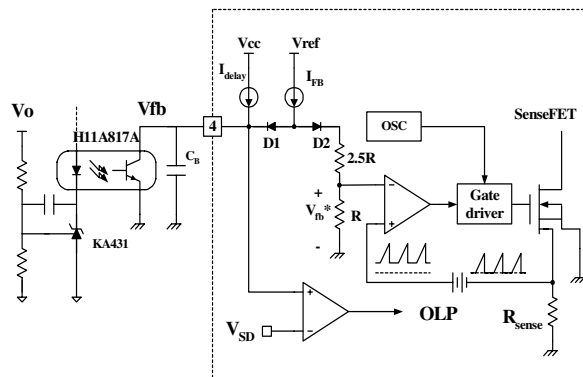

Figure 5. Pulse width modulation (PWM) circuit
**2. Feedback Control:** FSDM1265RB employs current mode control, as shown in Figure 5. An opto-coupler (such as the H11A817A) and shunt regulator (such as the KA431) are typically used to implement the feedback network. Comparing the feedback voltage with the voltage across the  $R_{sense}$  resistor in addition to the offset voltage makes it possible to control the switching duty cycle. When the reference pin voltage of the KA431 exceeds the internal reference voltage of 2.5V, the H11A817A LED current increases, thereby pulling down the feedback voltage and reducing the duty cycle. Typically this happens when the input voltage is increased or the output load is decreased.
**2.1 Pulse-by-pulse current limit:** Because current mode control is employed, the peak current through the Sense-FET is limited by the inverting input of PWM comparator ( $V_{fb}^*$ ) as shown in Figure 5. Assuming that the 0.9mA current source flows only through the internal resistor ( $2.5R + R = 2.8\text{ k}\Omega$ ), the cathode voltage of diode D2 is about 2.5V. Since D1 is blocked when the feedback voltage ( $V_{fb}$ ) exceeds 2.5V, the maximum voltage of the cathode of D2 is clamped at this voltage, thus clamping  $V_{fb}^*$ . Therefore, the peak value of the current through the Sense FET is limited.